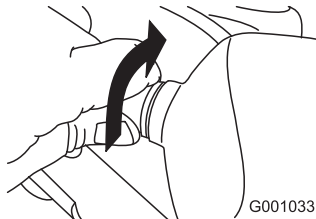

Figure 52
2. Turn the base of the bulb counterclockwise until it stops (Figure 52).